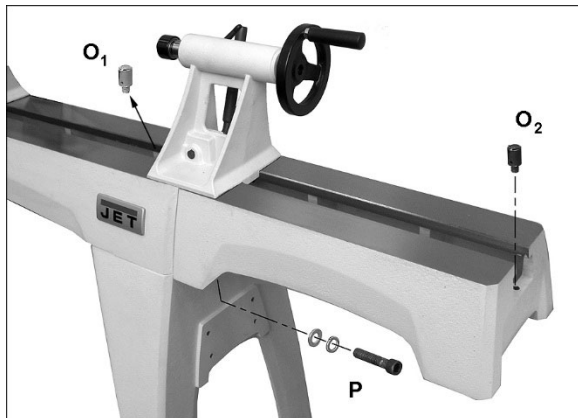

Figure 5-6: installing bed extension (optional)
1. Unscrew stud (see O, Figure 5-6) from each end of bed. (Note: studs can be stored in one of the threaded holes in lathe legs.)
7. Install headstock, tool support and tailstock, and both studs (O, Figure 5-6).
2. Have an assistant hold bed extension flush to end of lathe bed, and insert screws and washers provided with bed extension (P, Figure 5-6). Snug screws just enough to hold bed extension to lathe bed.
5. Slide tailstock over joint where beds meet, so that clamping nut is centered over joint, as shown in Figure 5-6. Lock tailstock clamping handle; this will align the beds.
6. Securely tighten screws (P) in bed extension.
To remove headstock, tailstock or toolrest base from bed, unscrew and remove either of the studs (see O, Figure 5-6). Unlock the item and slide it off bed. After remounting these items on the lathe, reinstall studs.